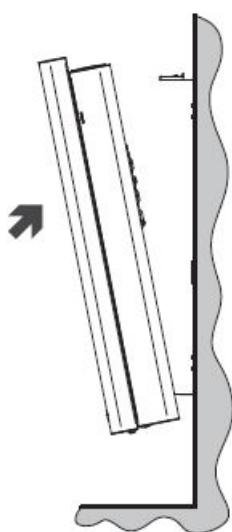

FIGURE 3
1. Insert the lower hooks of the wall bracket in the device. (FIGURE 3)